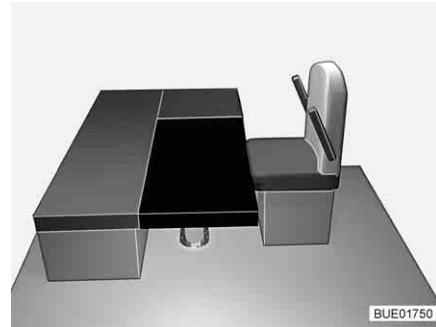

Fig. 127 After conversion
- Place the rectangular additional cushion on the table (in front of the seat cushions of the bench, see Fig. 127).